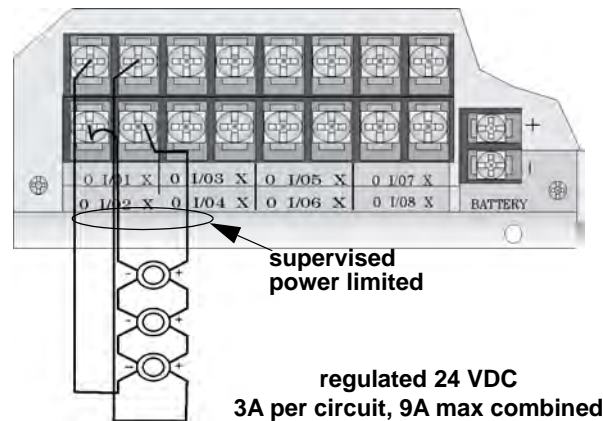

Figure 4.38 Class A Notification Appliance Circuit Configuration
1. Wire the Class A notification appliances as shown in Figure 4.38.
NOTE: In programming any point that uses multiple Flexput circuits, the lowest Flexput circuit number is used to refer to the circuit pair. For example, Figure 4.38 uses both Flexput circuit 1 and 2, so in programming it would be referred to as point 1.